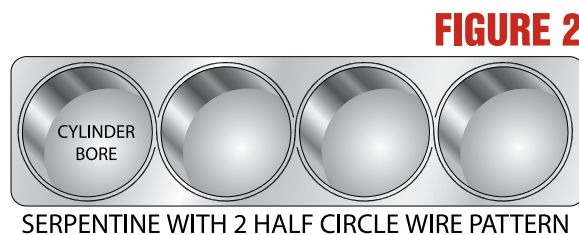

FIGURE 2
STEP 5 - If the combustion chamber or bore is so large that the o-rings will be placed less than .100" apart between cylinders, it is advisable to use a "figure 8" pattern for o-rings (SEE FIGURE 2 BELOW). This allows for more even clamp load over the entire head surface.